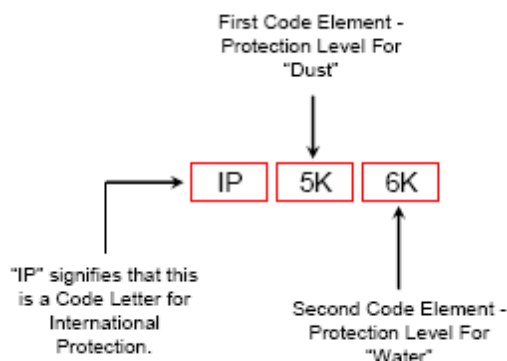

Figure 1: IP Code Example
3.1.1.6 Definition of Codes Used for International Protection (IP) by Enclosures. The example in Figure 1 explains the use of letters in the IP Code. For details see ISO 20653, Protection of Electrical Equipment against Foreign Objects, Water and Access.